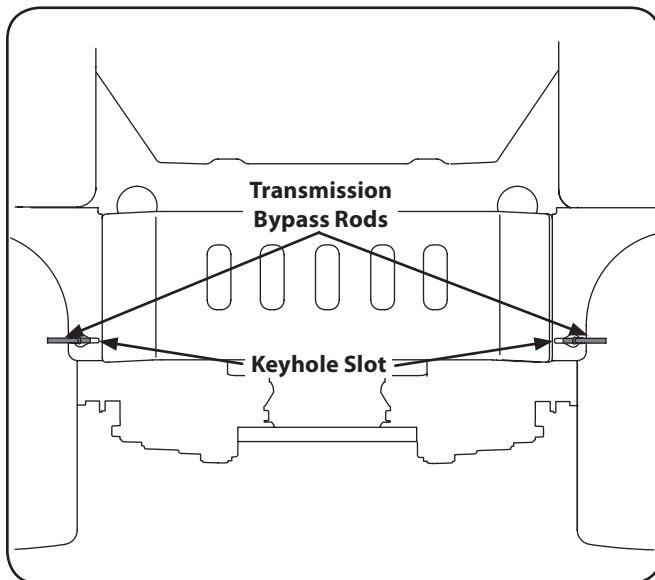

Figure 3-1
3. Engage the transmission bypass rods on each side of the tractor; then carefully roll the tractor off the shipping pallet. The transmission bypass rods (one for each the RH and LH transmission) are located on the rear of the tractor, just inside each rear wheel. Disengage the bypass rods. See Fig. 3-1.